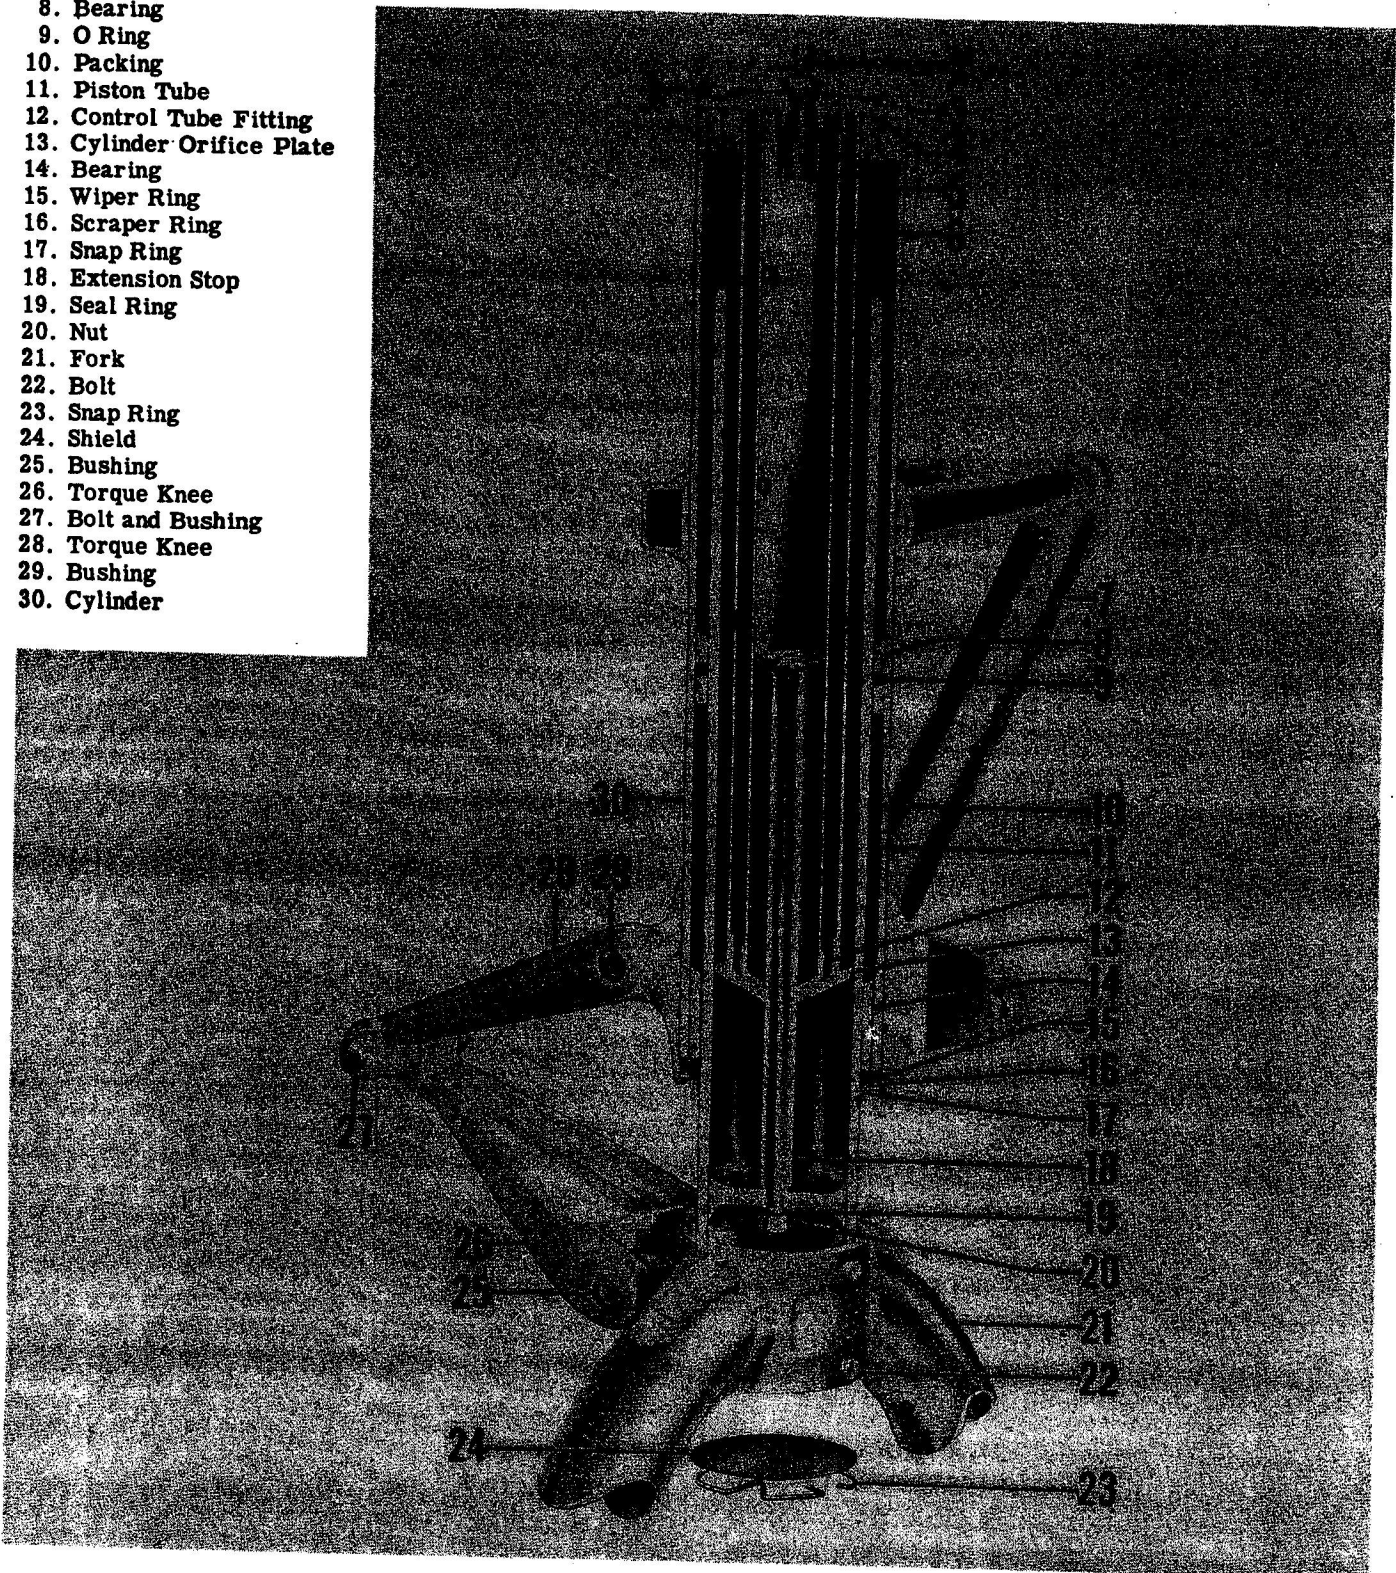

Figure 2. Cutaway View, Landing Gear Shock Strut
**DISASSEMBLY (See figure 2)**
**INSPECTION (See figure 2)**
**REPAIR AND REPLACEMENT (See figure 2)**
- (c) Whenever the strut is overhauled and intended for storage, saturate the packing (10) with light oil, Specification MIL-O-6081A. This will prevent the packing from drying out and causing leakage when first put into service.
**REASSEMBLY (See figure 2)**
- (c) Assemble piston tube (11) in cylinder (30) by sliding piston tube into cylinder.
- (d) Insert the inner cylinder (5) into cylinder (30) followed by the rebound control tube (6) which fits down inside inner cylinder (5).
- (e) Slip seal ring (19) over threaded end of extension stop (18) into seat. Then insert extension stop (18) down through top of cylinder (30) and secure to piston tube support with nut (20).
- (f) Fit shield (24) in place and secure by inserting snap ring (23) into groove.
- (g) Immerse gasket (4) in hydraulic fluid and then place in seat. Assemble cap (3) and fasten with bolts (1).
- (h) Fasten torque knees (26) and (28) together with bolt and bushing (23).
- (i) Align fork (21) and cylinder (30) to facilitate assembly of torque knees (26) and (28).
- (j) Fit torque knees (26) and (28) into place and insert pins (25) and (29) locking them in place with bolts.
- (k) Screw valve assembly (2) into cap (3) and wire safety bolts (1) and valve assembly in accordance with EO 75-70-10.
**TEST PROCEDURE (See figure 2)**